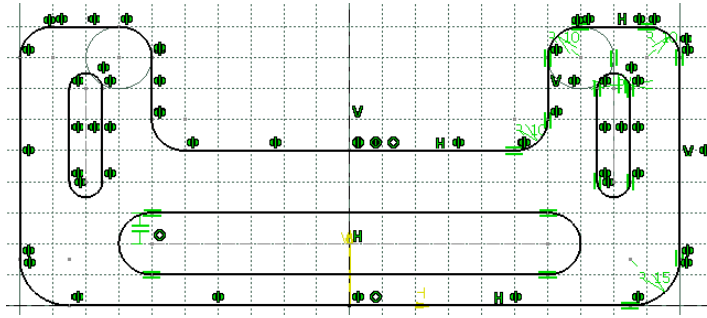

Figure 3-62 The sketch after creating the horizontal elongated hole
- Draw the elongated hole in the lower portion of the sketch, refer to Figure 3-62.
4. Draw the horizontal elongated hole to complete the sketch. The final sketch is shown in Figure 3-62.